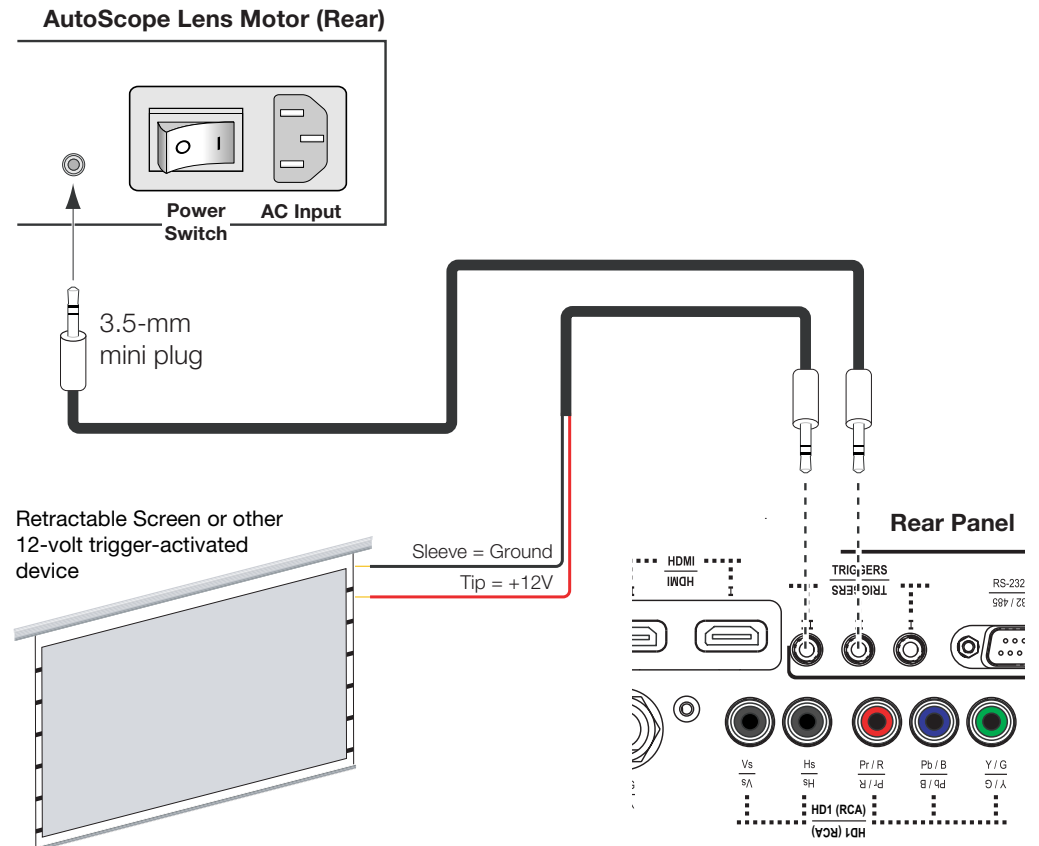

Figure 3-16. 12-volt Trigger Output Connections
If your VX-33i is equipped with a CineWide with AutoScope system, connect the AutoScope lens motor to a 12-volt trigger output on the VX-33i; see Figure 3-16.
2. If this is an AutoScope-equipped projector, turn on the main power switch at the rear of the AutoScope lens motor. The lens motor power switch is located next to the AC input (see Figure 3-16).